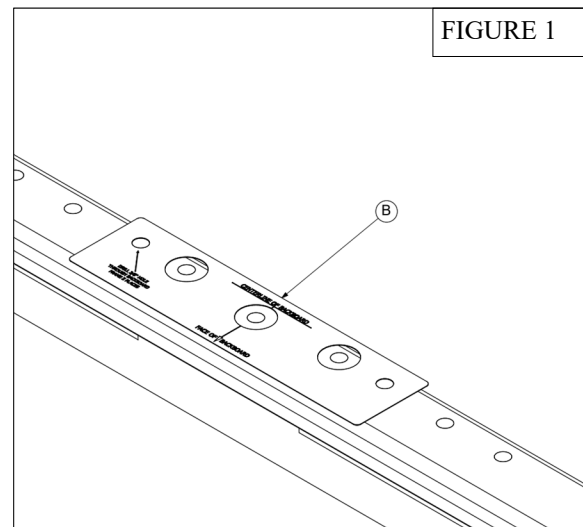

FIGURE 1
2. Install the *Adhesive Drill Template* (B) with the front of the template flush with the front of the backboard's top frame and centered on the centerline of the backboard marked in #1 above. See Figure 1.
3. Using the *Center Punch* (C) provided and a hammer carefully punch a locating mark in the center of the 2 dots on the *Adhesive Drill Template* (B) to help locate the holes to be drilled.